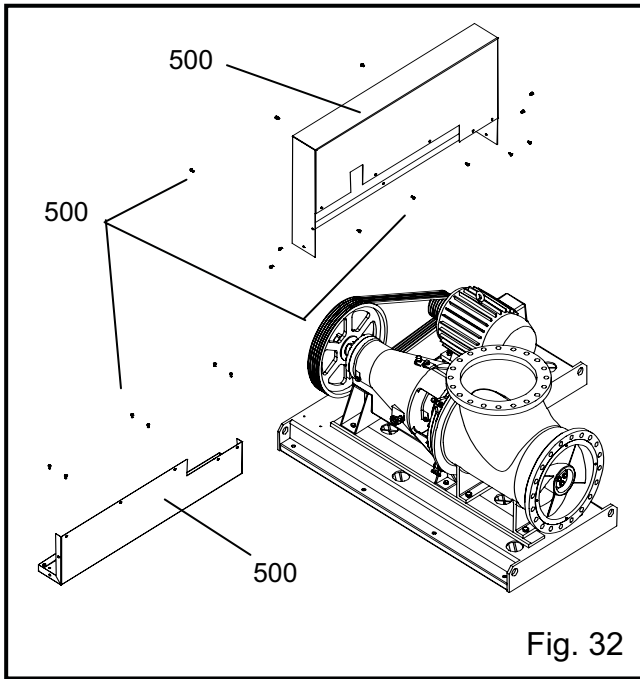

Fig. 32
9. Remove the V-belt guard screws and the guard cover (500) from guard base, see Fig. 32.